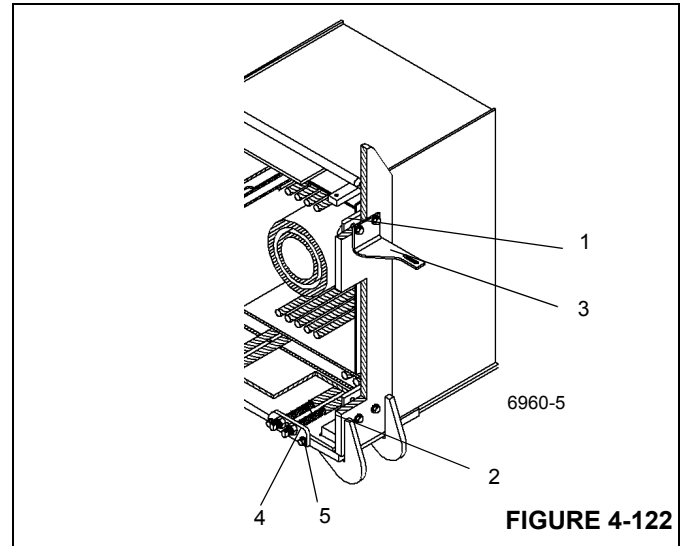

FIGURE 4-122
2. Install base section front top (1) and bottom (2) side wear pads with two screws each (Figure 4-122). On top left side attach mounting angle (3) with both wear pad screws. Shim per note.
3. Attach outer mid retract cable anchor plates (4) to front of base section with two cap screws (5) each (Figure 4-122).